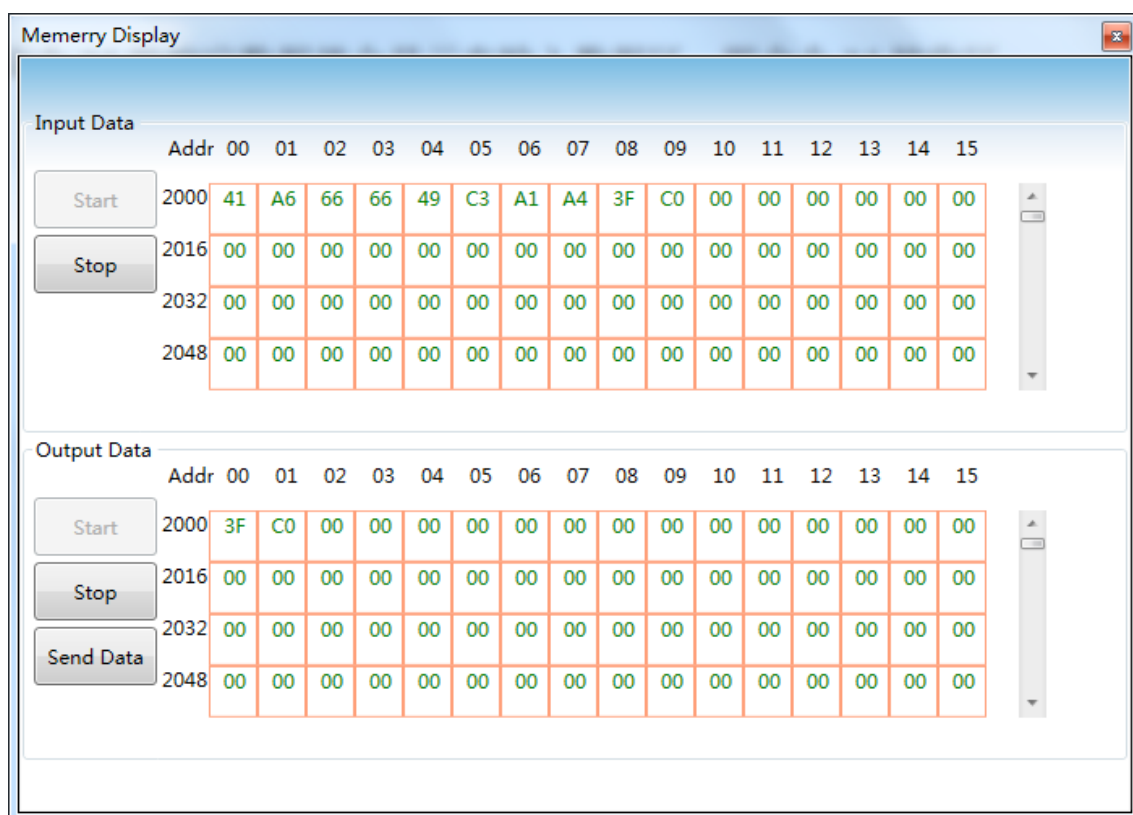

Figure 4.10 Memory display interface
- (2) Connect the RS232 (or RS485/RS422) interface of the gateway and the serial port of the computer with a serial cable (or 485/422 to serial cable), and finally power on the gateway, and the gateway is running in debug mode.
- (3) Start the configuration software. After G1003 is online, click the memory display icon  on the toolbar to open the memory display interface, as shown in Figure 4.10:
As shown in Figure 4.10, the input and output data shows the current value of each memory cell in the form of a table. When you want to modify the output data, first click the button "stop", then modify the corresponding data, and finally click the button "send data".